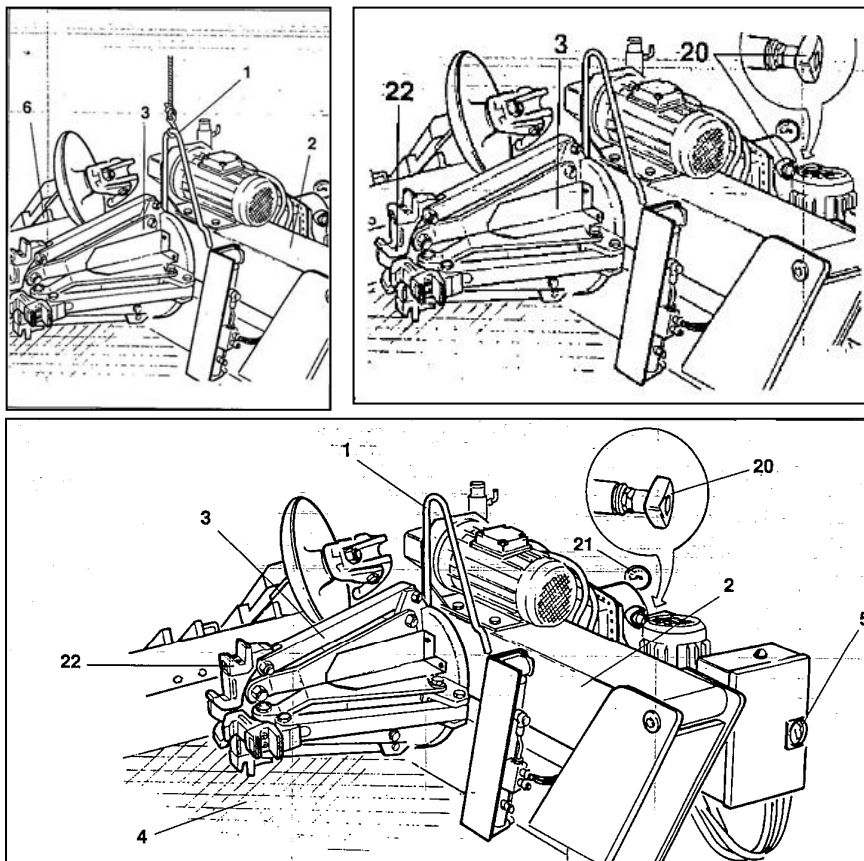

Fig. 3.1
The Worker product has got a fork (1, Fig. 3.1) which has been positioned there on purpose for moving the machine. Follow, these instructions:
- 1) Low the turntable holding arm (2, Fig. 3.1) completely down..
- 2) Close completely the jaws of the chuck (3, Fig.3.1).
- 3) Bring the bead loosener disk up against the lifting bracket (1, Fig.3.1), 20cm nearly with the arm (14 Fig.6.3)